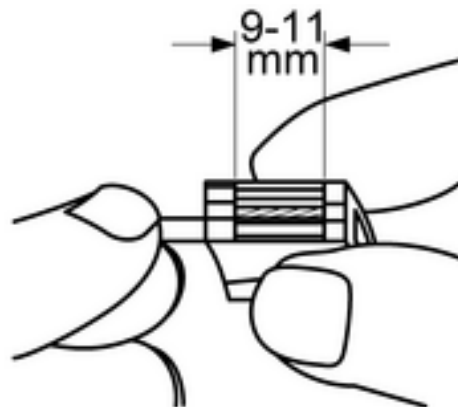

Figure 5: Stripping length
- Strip 9 - 11 mm of the cable (Figure 5).